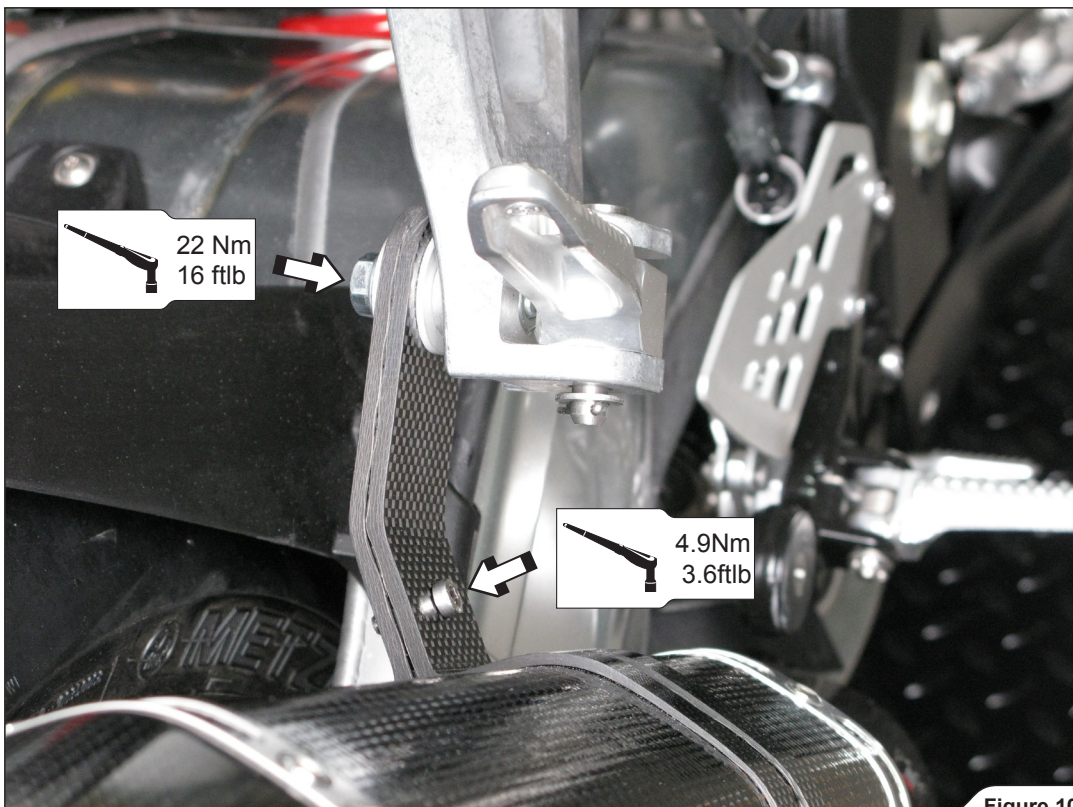

Figure 10
7. **For High Slip-On only:** position the muffer with link pipe correctly and slide it onto the outlet side of the stock collector. Assemble the carbon-fiber clamp onto the muffer bracket, as shown. Align the muffer in respect to the motorcycle and tighten the muffer clamp to a specified torques (**Figure 10**).